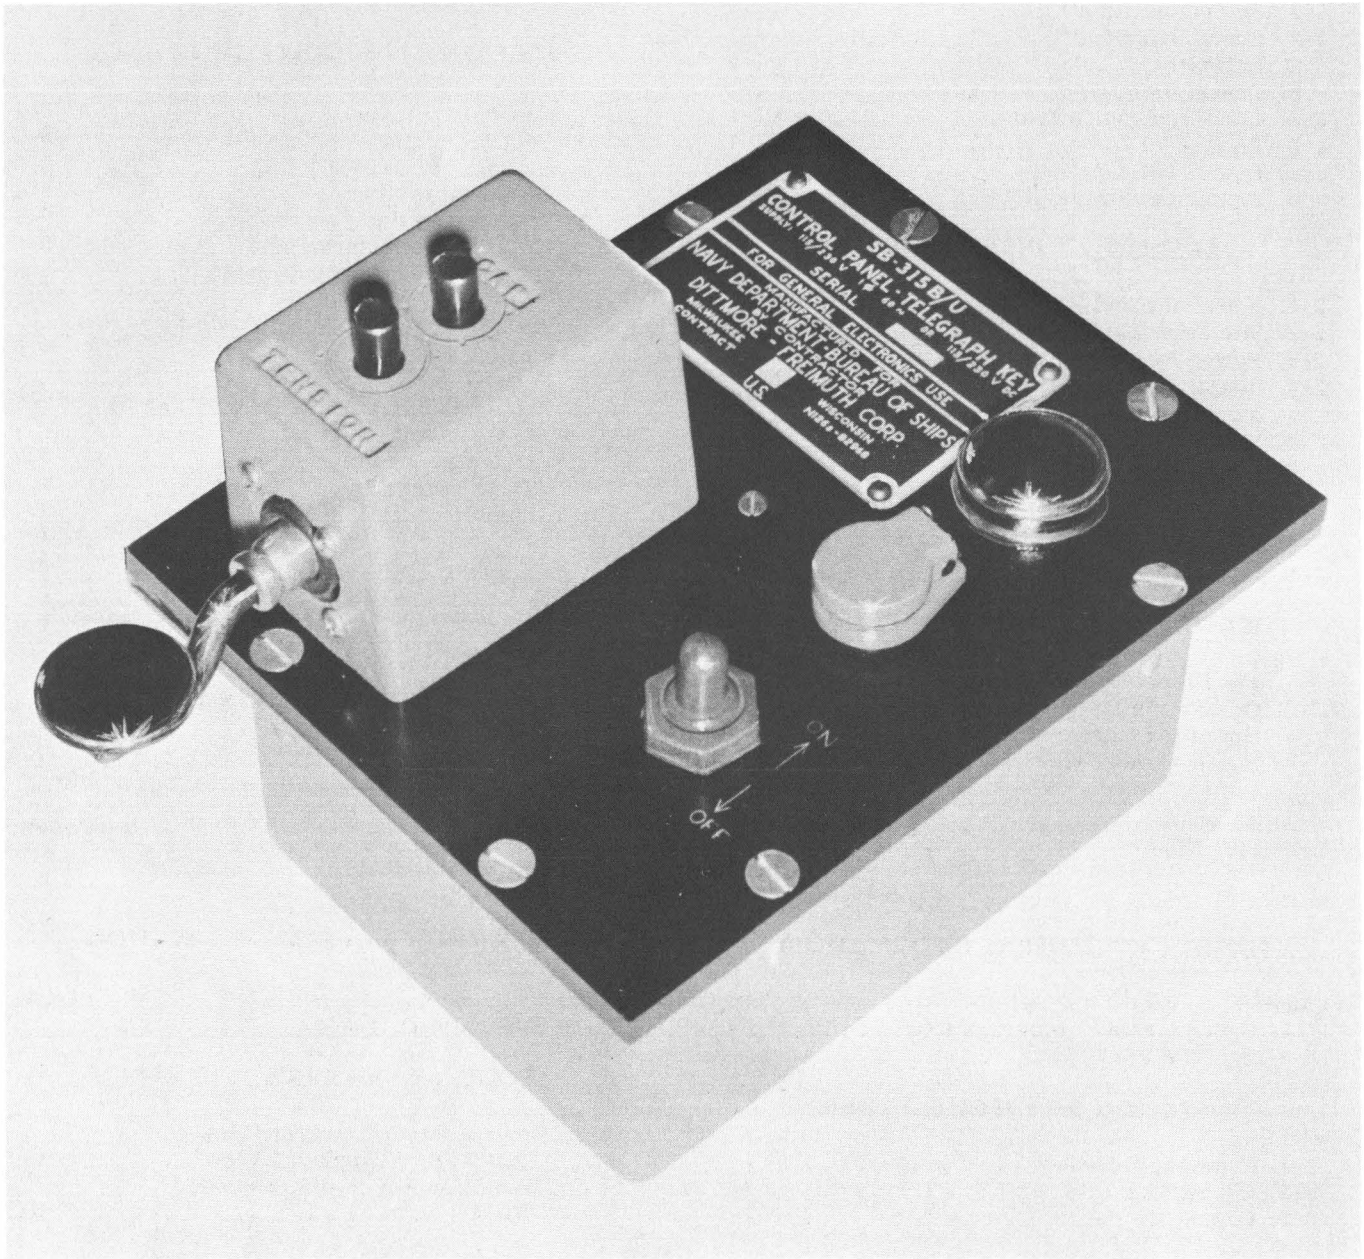

Figure 1-1. Control Panel Telegraph Key SB-315B/U
This technical manual covers the theory of operation, installation, and maintenance of Control Panel Telegraph Key SB-315B/U. A parts list is included in the last section of this technical manual. Figure 1-1 illustrates the complete unit.
a. The Control Panel Telegraph Key SB-315B/U (figure 1-1) contains the components and circuitry necessary to control the operation of the radio transmitter from a remote operating position. A toggle switch, located on the plastic panel, provides a means for turning a transmitter on or off. An indicator light glows red when the transmitter is on. The telegraph key is mounted at the front edge of the panel so that the telegraph key knob projects past the edge of the panel. This arrangement permits the fingers of the operator's hand to rest on the operating desk and not on the panel.